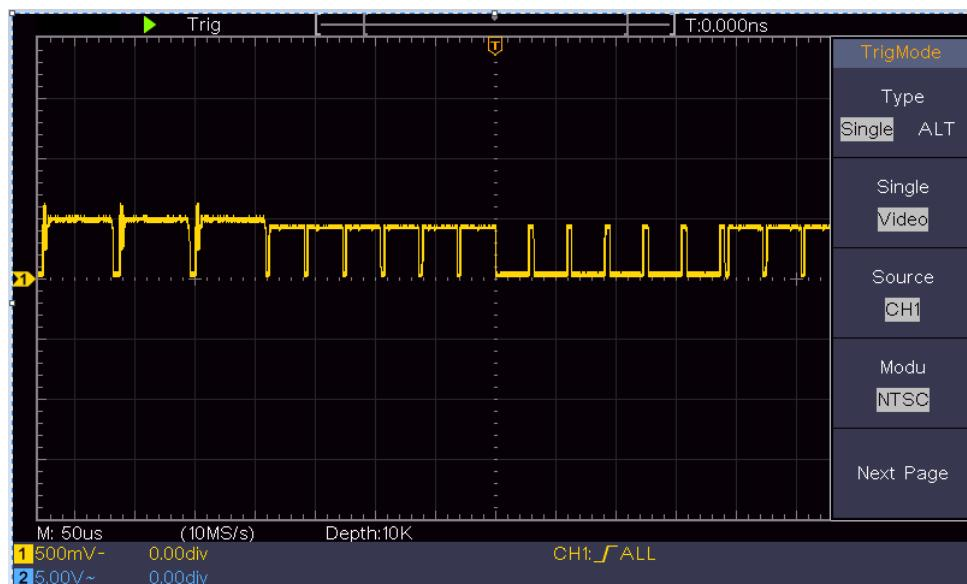

Figure 0-7 Waveform Captured from Video Field Trigger
- (1) Push the **Trigger Menu** button to display the right menu.
- (2) In the right menu, select **Type** as **Single**.
- (3) In the right menu, select **Single** as **Video**.
- (4) In the right menu, select **Source** as **CH1**.
- (5) In the right menu, select **Modu** as **NTSC**.
- (6) In the right menu, press **Next Page**, select **Sync** as **Field**.
- (7) Turn the **Vertical Scale**, **Vertical Position** and **Horizontal Scale** knobs to obtain a proper waveform display (see *Figure 0-7*).